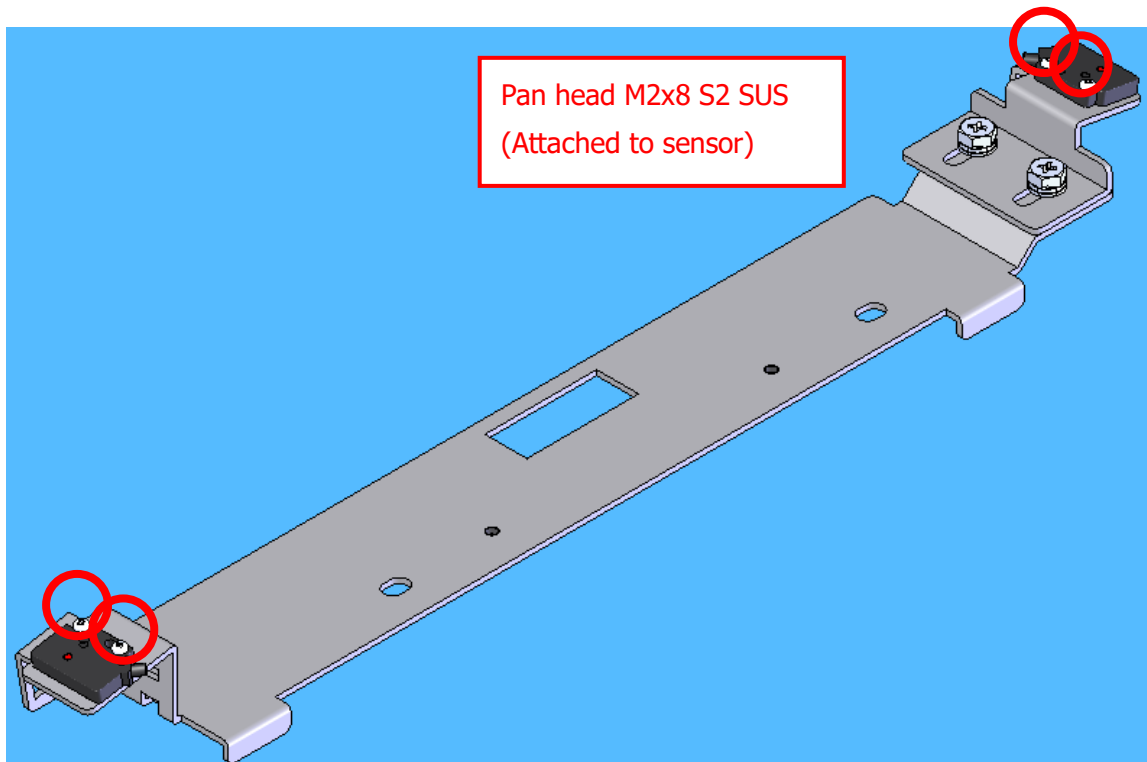

Fig. 8 Attach the front/rear sensors
2. Attach the front/rear sensors (Fig. 8).